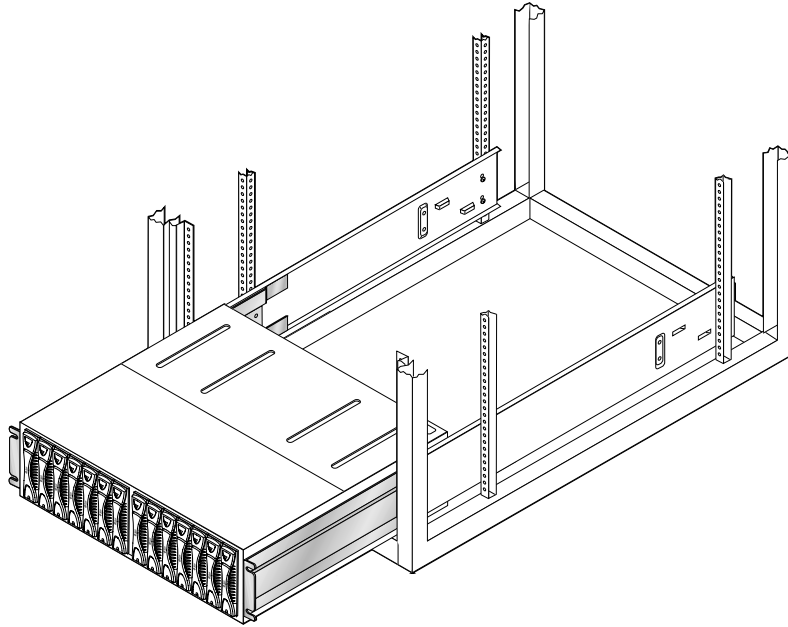

FIGURE 6-18 Removing the Chassis
- b. Slide the chassis out of the cabinet (FIGURE 6-18).